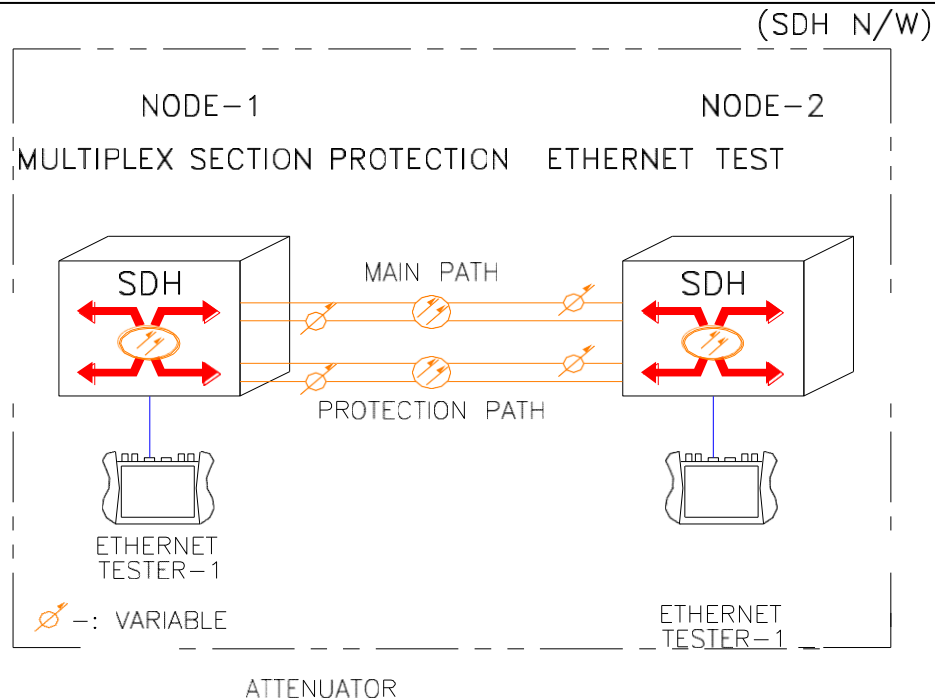

Figure 2: MSP Protection Test Ethernet
- Make the test setup as shown in Figure 2.